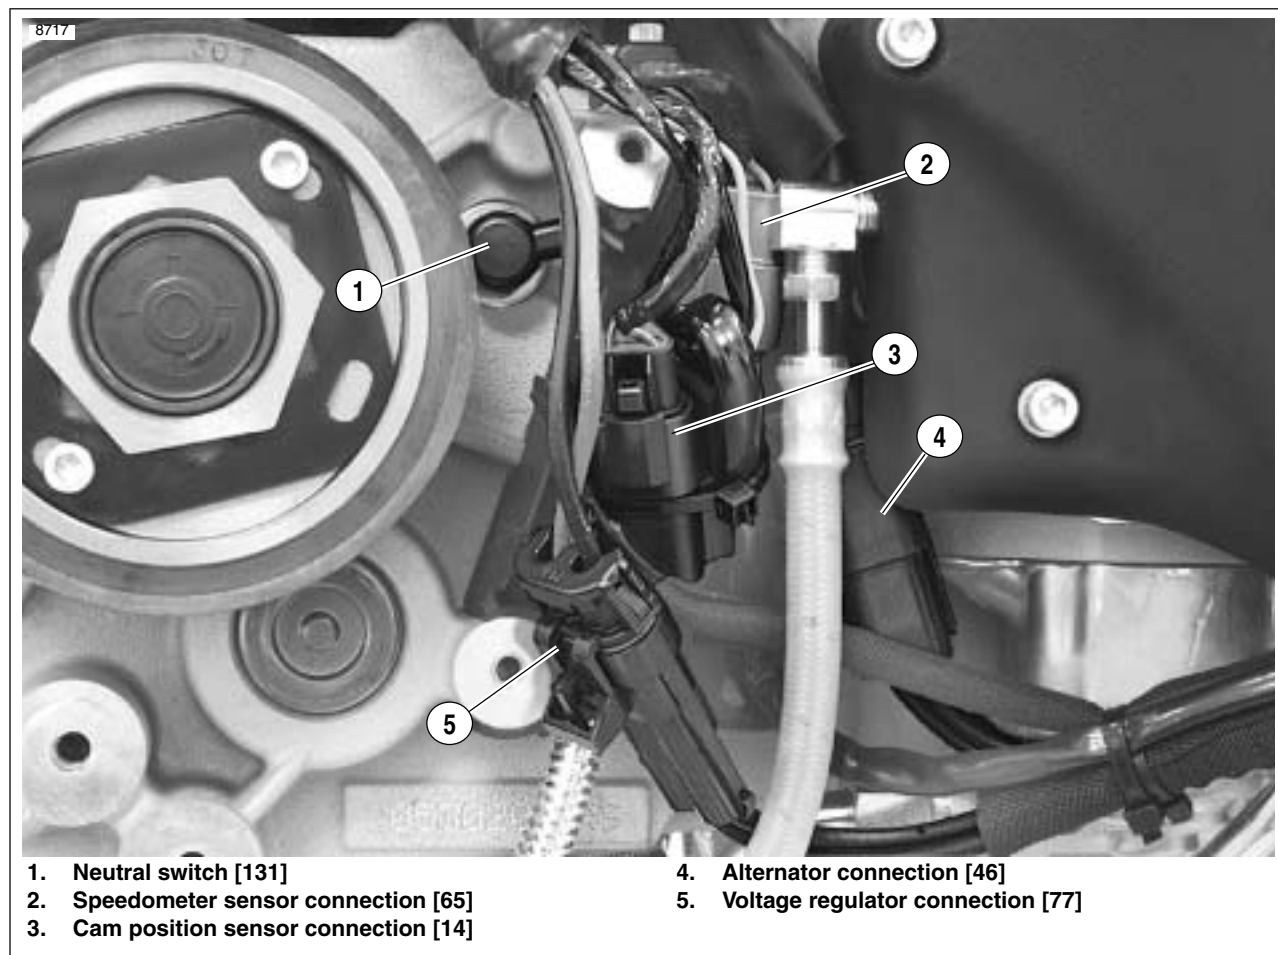

Figure 3-24. Electrical Connections
- c. See Figure 3-24. Unplug regulator harness, (2 plugs).
33. See Figure 3-24. Disconnect electrical components: